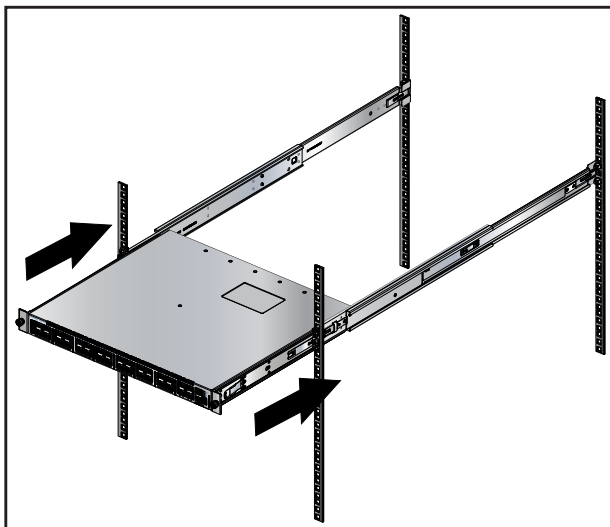

**Figure 3-10: Attaching the Rails**
**Step 2** Attach rail to the right rear rack post by inserting rod-end rack plugs into post slots (Figure 3-10, Inset A). The slide assembly must be inside the right posts, relative to the left rack posts.
**Step 3** Attach the slide end of the rail to the front post by extending the rail end past the post, then contracting the rail while guiding the rack plugs into the post (Figure 3-10, Inset B).